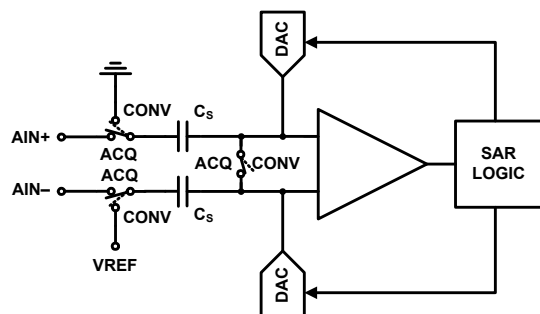

FIGURE 24. SAR ADC ARCHITECTURAL BLOCK DIAGRAM
The ISL26712/10/08 are based on a successive approximation register (SAR) architecture utilizing capacitive charge redistribution digital-to-analog converters (DACs). Figure 24 shows a simplified representation of the converter. During the acquisition phase (ACQ), the differential input is stored on the sampling capacitors (CS). The comparator is in a balanced state since the switch across its inputs is closed. The signal is fully acquired after  $t_{ACQ}$  has elapsed and the switches then transition to the conversion phase (CONV) so the stored voltage may be converted to digital format. The comparator will become unbalanced when the differential switch opens and the input switches transition (assuming that the stored voltage is not exactly at mid-scale). The comparator output reflects whether the stored voltage is above or below mid-scale, which sets the value of the MSB. The SAR logic then forces the capacitive DACs to adjust up or down by one quarter of full-scale by switching in binary weighted capacitors. Again, the comparator output reflects whether the stored voltage is above or below the new value, setting the value of the next lowest bit. This process repeats until all 12 bits have been resolved.